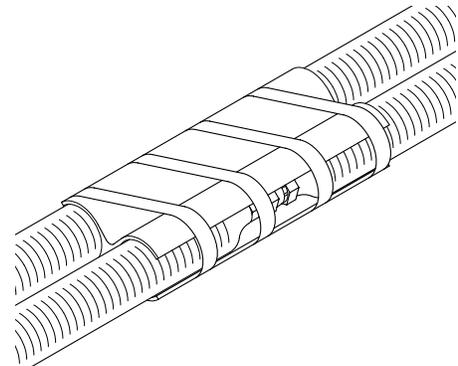

FIG. 14: Hose Connection (step d)
- d. Install isolator between chemical hose fittings. Use small amount of tape to hold in place. See FIG. 14.